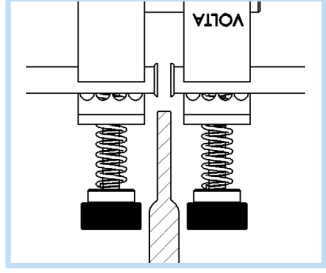

Figure 4
6. When the belt ends have melted slightly (0.5 - 1.0 mm crown), open the R-8 Mini Plier (Figure 4), quickly remove the welder and allow the R-8 Mini Plier to close. The two belt ends will be in contact with each other (Figure 5).